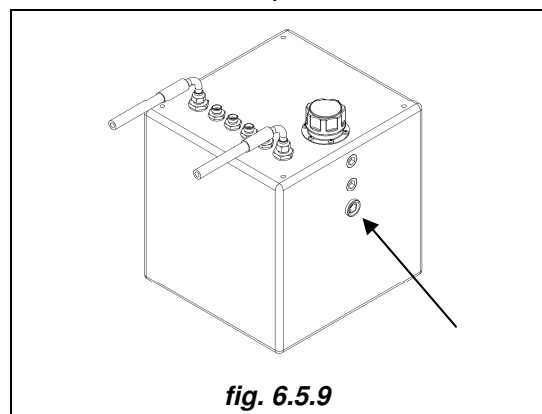

fig. 6.5.9
Before use, visually check the hydraulic oil level through the indicator on the tank. The level must be at the centre of the indicator. Top-up if necessary through the filling cap. (*fig. 6.5.9*).
- top-up the hydraulic oil tank and control the level through the indicator (*fig. 6.5.9*).